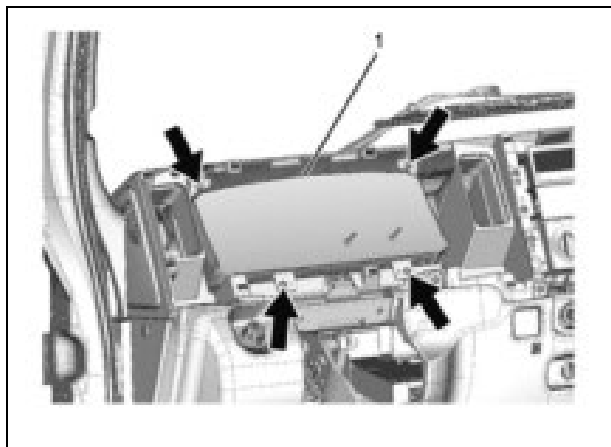

Figure 50
54. Remove the instrument panel cluster from the instrument panel. Remove four (4) T-25 screws and disconnect one (1) connector. (See Figure 50.)